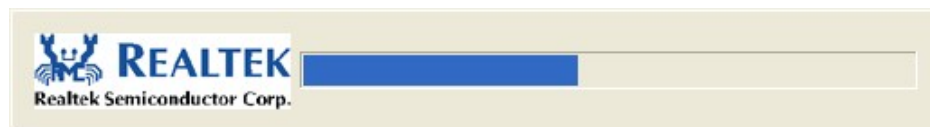

Figure 6-18: Audio Driver Installation
**Step 7:** The driver installation begins. See **Figure 6-18**.